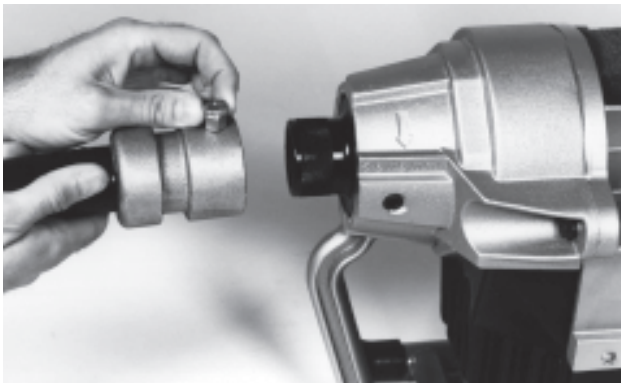

Figure 4 – Rear Guide Hose Attachment
5. Attach the rear guide hose by lifting up the lock pin and sliding guide hose onto the jaw housing adjustment knob (Figure 4).